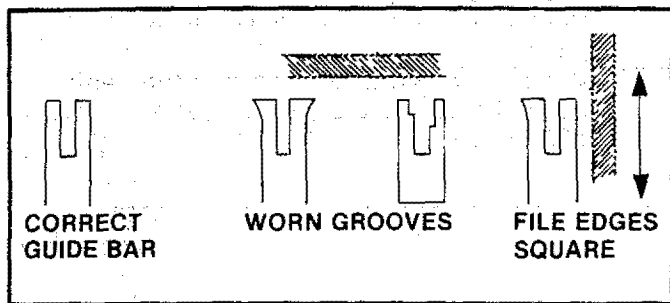

Figure 43
- Remove burrs by filing the side edges of the guide bar square with a flat file. Figure 43.
- Restore square edges to an uneven rail top by filing with a flat file. Figure 43.